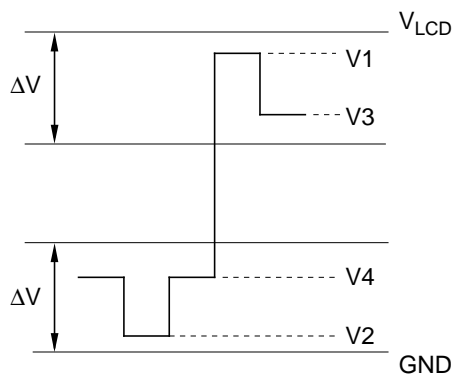
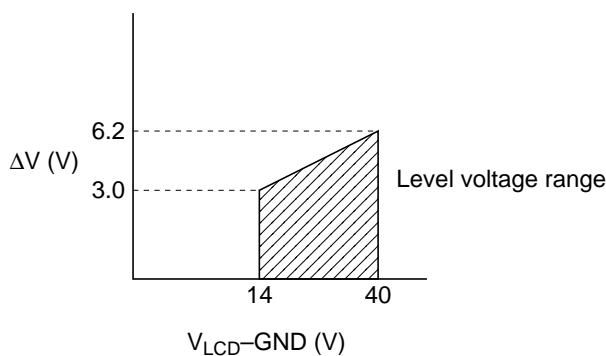

Figure 7 Relation between Driver Output Waveform and Level Voltages
Figure 8 Relation between V_{LCD} - GND and ΔV
- V1 and V3 should be near V_{LCD} level, and V2 and V4 should be near GND level (figure 7). All voltage must be within ΔV . ΔV is the range within which R_{ON} , the LCD drive circuits' output impedance, is stable. Note that ΔV depends on power supply voltage $V_{LCD} - \text{GND}$ (figure 8).